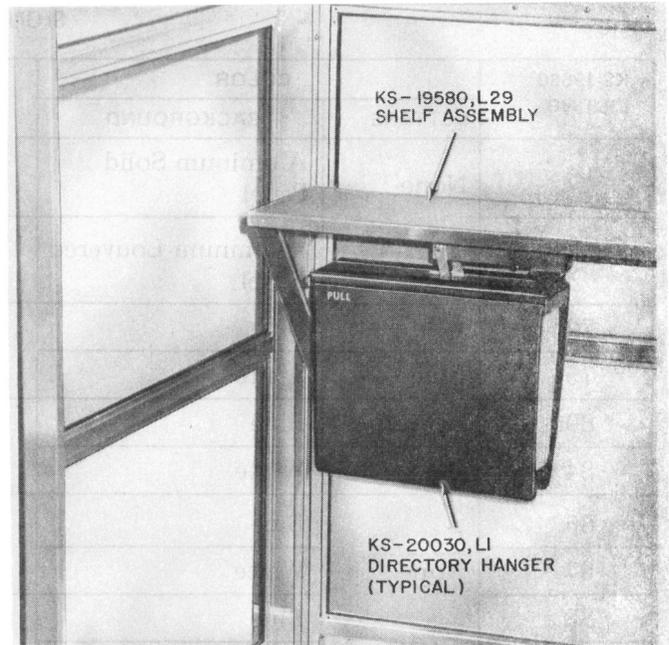

Fig. 8—KS-19580, List 29 Shelf Assembly with KS-20030, List 1 Directory Hanger (Typical)
2.15 Unless otherwise specified, a KS-19580, List 29 shelf assembly is furnished with each booth (Fig. 8). The List 29 shelf will accept a KS-20030, List 1 or 2 directory hanger; ordered separately.